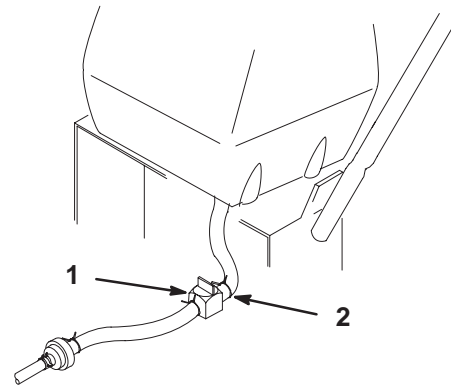

Figure 38
2. Close fuel shut-off valve at fuel tank (Fig. 38).
3. Squeeze the ends of the hose clamp together and slide it up the fuel line away from valve (Fig. 38).
4. Pull the fuel line off the valve (Fig. 38). Open fuel shut-off valve and allow gasoline to drain into a gas can or drain pan.
- Open fuel shut-off valve at fuel tank (Fig. 38).
- Check for fuel leaks and repair if needed (Fig. 38).